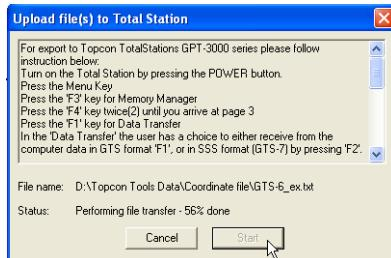

Figure 2-51. Exporting a Coordinate File to the Total Station
3. Follow all the steps given in the *Upload File(s) to Total Station* dialog box (Figure 2-51) to prepare the Total Station for exporting file.